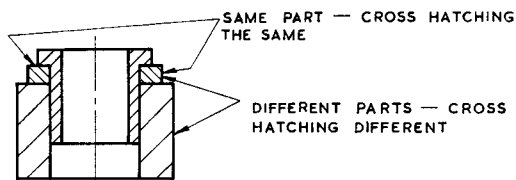

FIG. 31
*Assemblies:* Adjacent parts are cross-hatched in different directions or with different spacing to emphasise them (see Fig. 31).